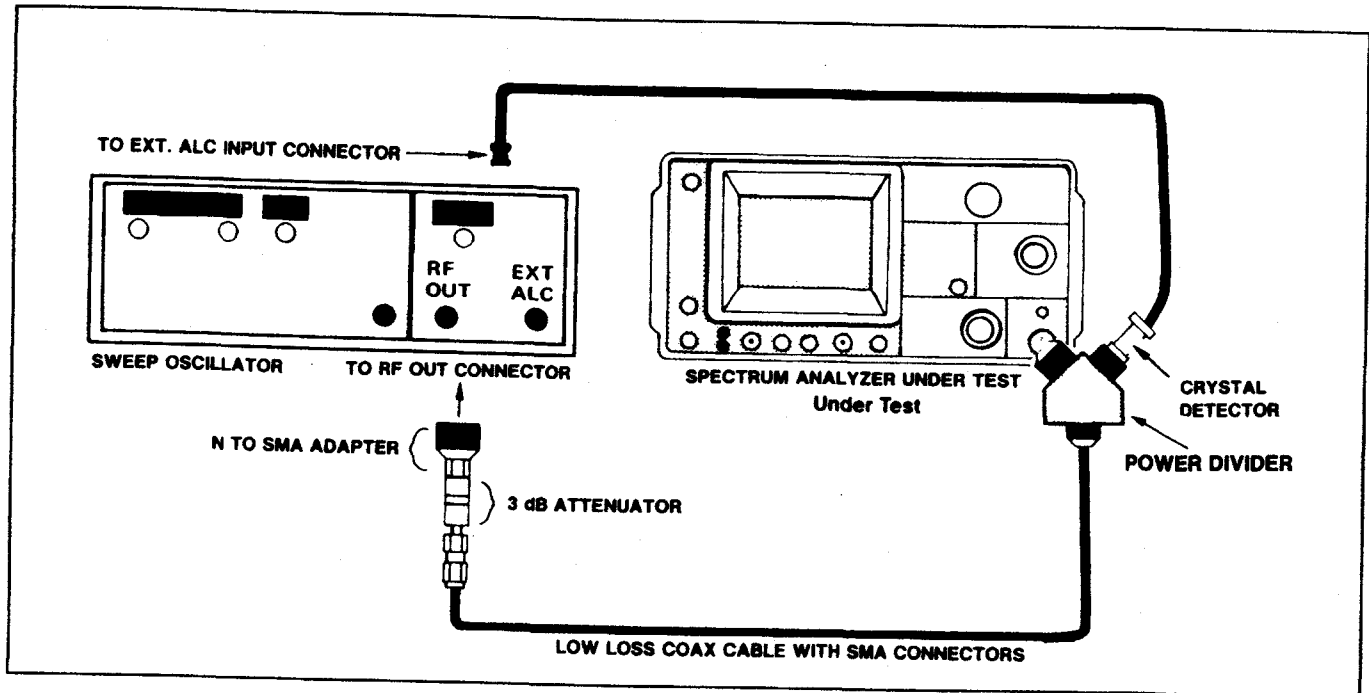

Figure 6-28. Baseline leveling test setup.
a. Connect the test equipment as shown in Figure 6-28. Set the ALC switch on the RF plug-in to the MTR position. Set the Power Level to approximately -10 dBm then set the Gain on the Sweep Oscillator for stable operation (output stops oscillating).